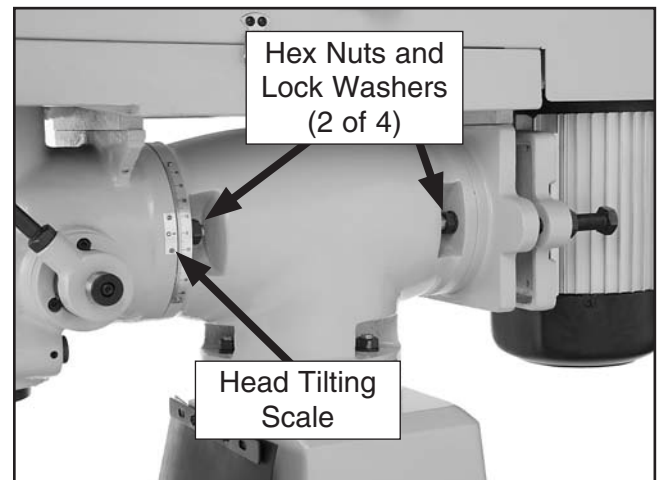

Figure 26. Head tilting hex nuts and lock washers (2 of 4 shown).
2. Loosen the four hex nuts and lock washers on both sides of the turret (see **Figure 26**).